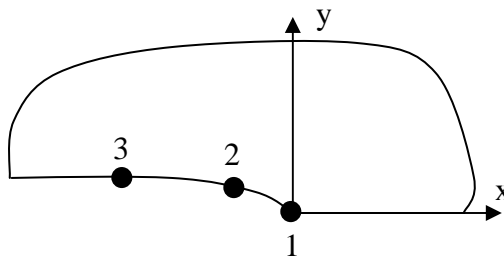

Figure 18: The nodes to be chosen in the *Path* definition.
2. Define a path along the crack face. The first node on the path should be the crack-tip node. For a half-crack model, two additional nodes are required, both along the crack face, see Figure 18.